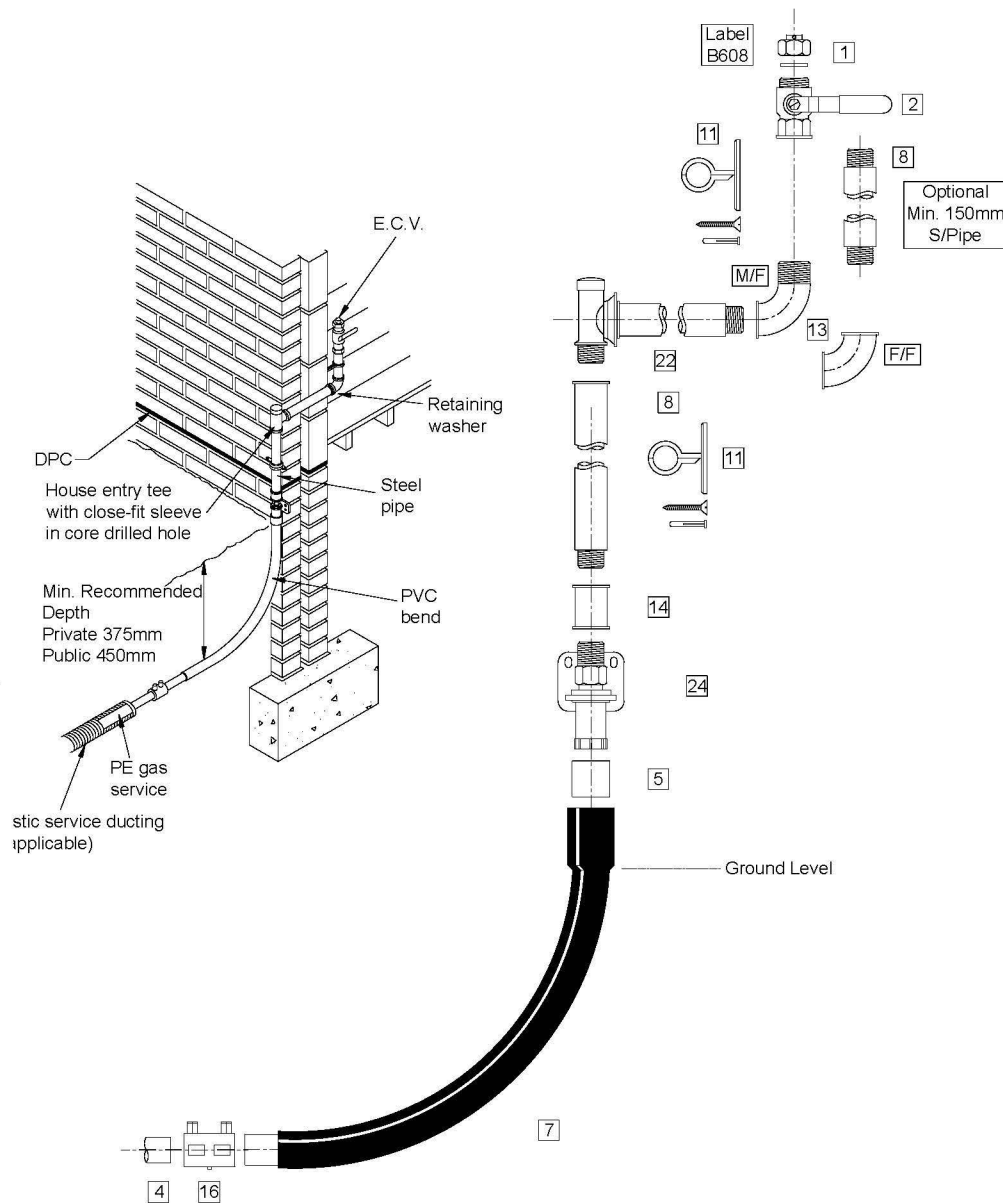

Figure D10b - PE service to above ground entry position
3. Figure D10b illustrates the house entry tee with a screwed BSP thread to allow the steel riser to be connected.